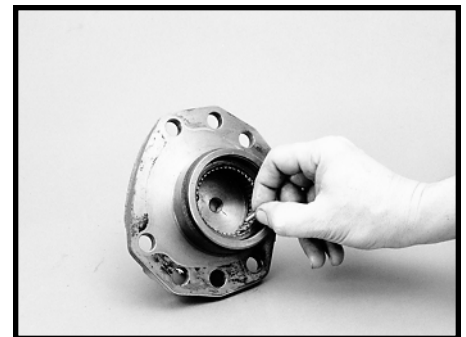

Figure 138
33. If the side cover does not have a caged bearing assembly, assemble 41 or 42 rolls into the side cover bearing race. Grease must retain rolls. SEE FIGURE 138.